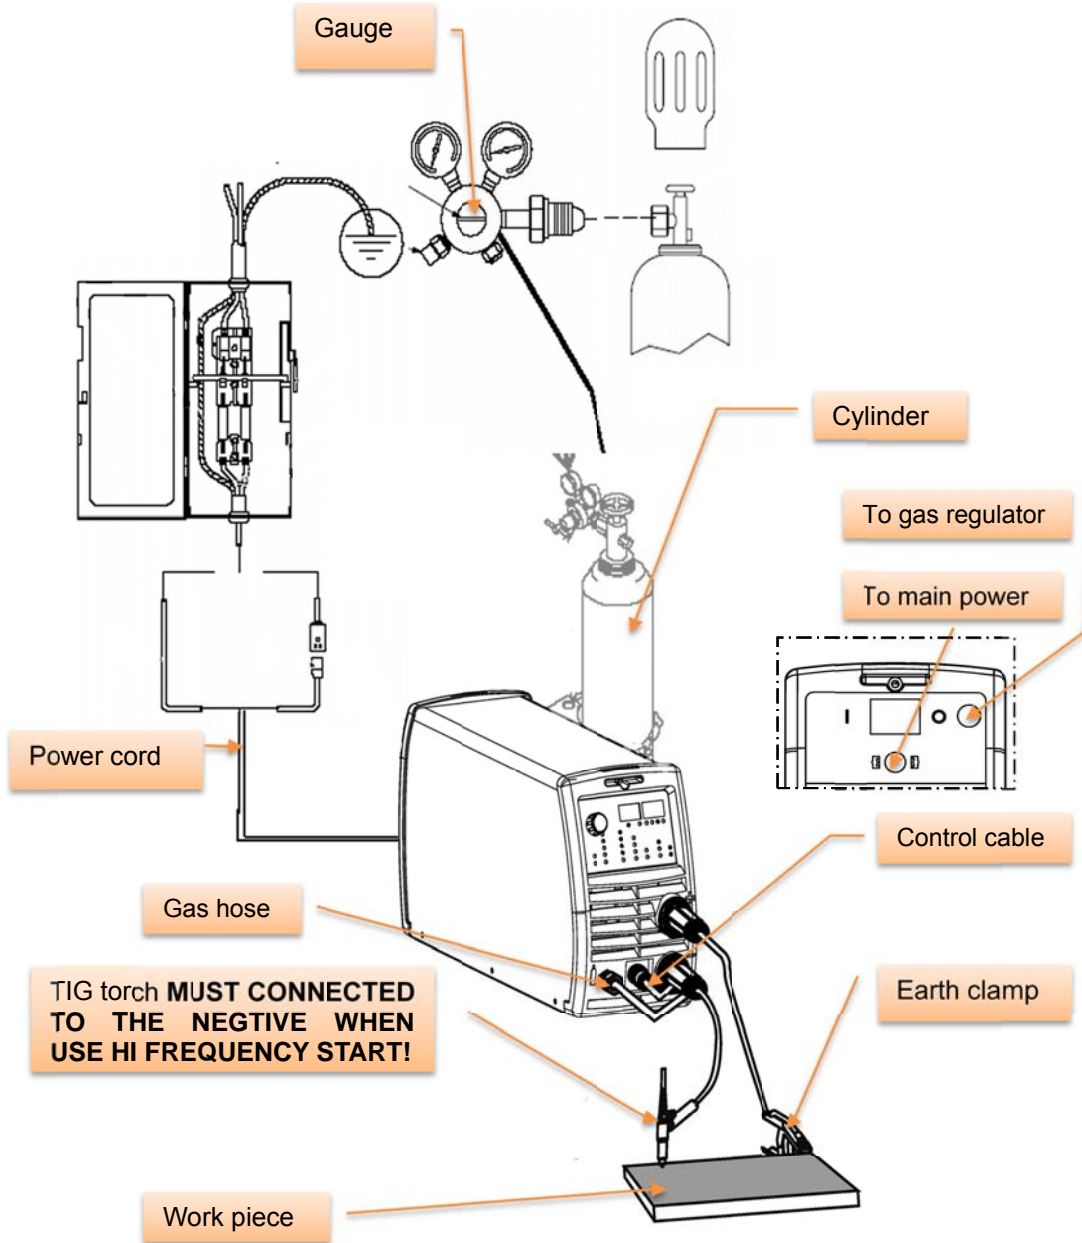

Figure 3.1
- 3-5.4. Connect the gas line/hose to the proper shielding gas source. Refer to Figure 3.1.